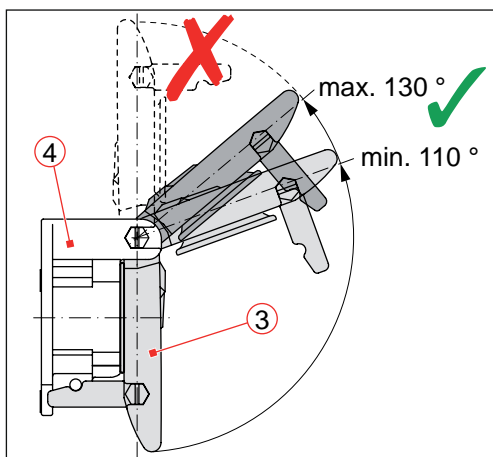

Fig. 20: Open the hinged lid (3) of the coupling receptacle (4): Opening angle at least 110°, at most 130°
- ▶ Open the hinged lid of the receptacle by an angle of at least 110° but not more than 130° (refer to **Fig. 20**). Overstretching of the hinged lid may shorten the operational life span of the torsion spring and may damage the hinge mechanism.